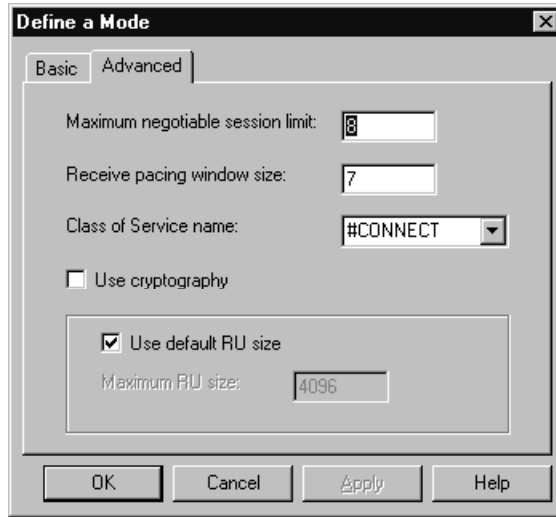

Figure 106. Define a mode: advanced page
- In the entry fields enter the same values that are shown in Figure 106.